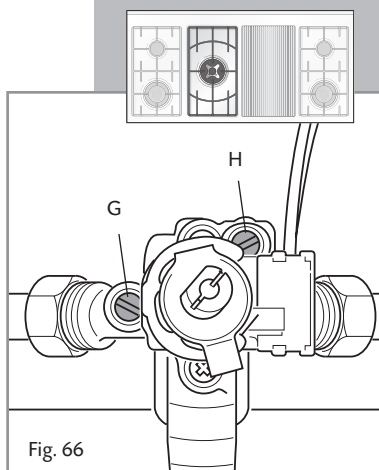

Fig. 66
- Using a screwdriver turn the screw **H** until the correct setting is obtained (fig. 66).
- Using a screwdriver turn the screw **G** until the correct setting is obtained (fig. 66).